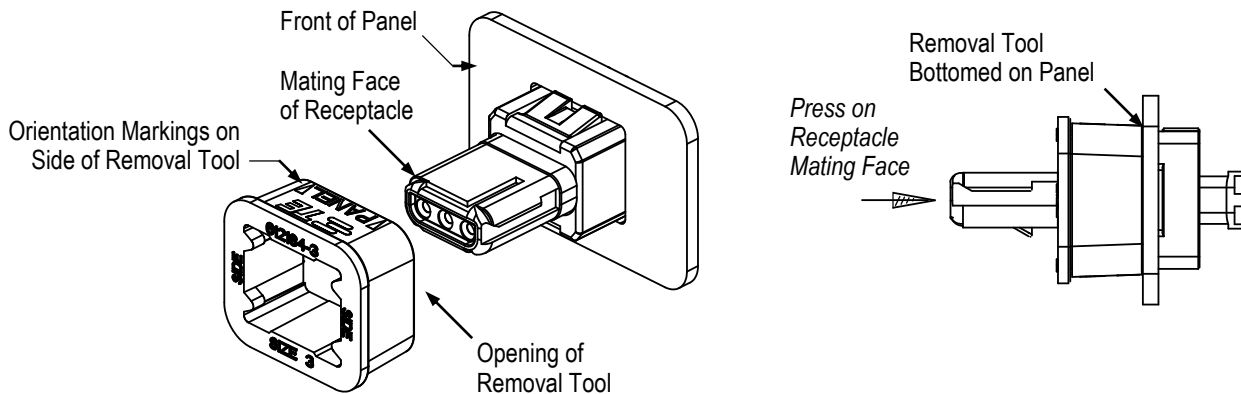

Figure 5
2. From the front of the panel, align the opening of removal tool (refer to drawing D612184-ENV for part numbers) with the mating face of the receptacle according to the orientation markings on the side of the tool (arrows pointing toward front of panel), and slide it over the receptacle until it bottoms on the panel. See Figure 5.